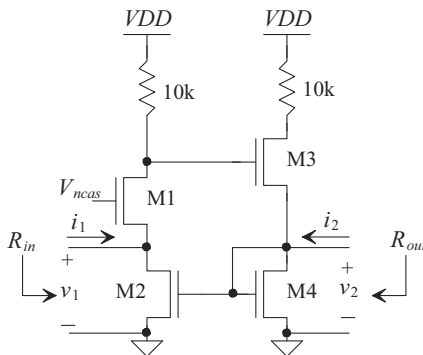

Figure 31.59 A shunt-shunt feedback amplifier.
31.16 A shunt-shunt feedback amplifier is shown in Fig. 31.59. (a) Identify the feedback topology by labeling the input mixing variables and the output variables, (b) verify that negative feedback is employed, (c) draw the closed-loop small-signal model, and (d) find the values of $R_{\beta i}$ and $R_{\beta o}$.
31.17 Using the shunt-shunt amplifier shown in Fig. 31.59 and the results from problem 31.16, (a) draw the small-signal open-loop model for the circuit and (b) calculate expressions for the open-loop parameters, A_{OL} , β , R_i , and R_o and (c) the closed-loop parameters, A_{CL} , R_{in} , and R_{out} .
- 31.22** Convert the shunt-shunt amplifier shown in Fig. 31.59 into a shunt-series feedback amplifier without adding any components. (a) Identify the feedback topology, (b) verify that negative feedback is employed, (c) draw the closed-loop small-signal model, and (d) find the values of $R_{\beta i}$ and $R_{\beta o}$.